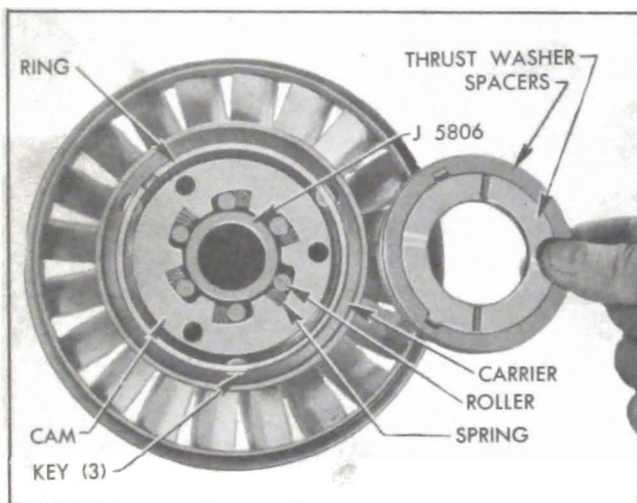

Figure 5-43—Parts in Rear Side of Stator
2. Pry the retaining ring from groove in stator blade rear carrier, and remove free wheel cam and three driving keys. See figure 5-43.
8. Install the free wheel cam with three driving keys and retaining ring in the rear carrier. See figure 5-43.
9. Check free wheel springs and alter lengths as necessary to assure equal length of all springs. Place free wheel rollers and springs in cam, with rollers at rounded ends of cam recesses. See figure 5-43.